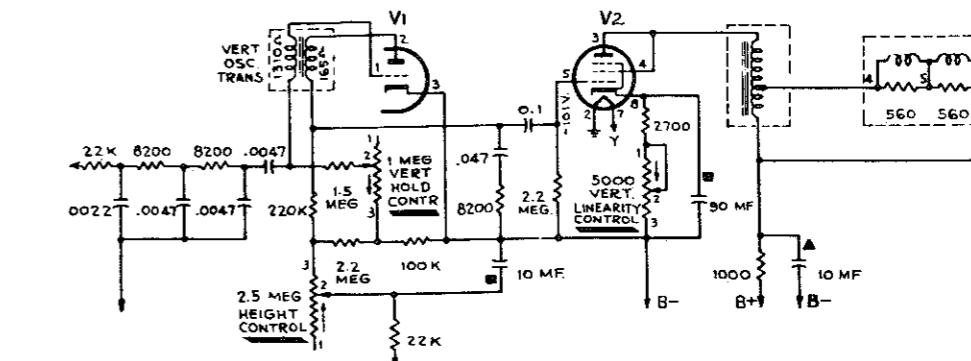

FIG. 40. A typical vertical sweep circuit.
**The Vertical Sweep Circuits.** Fig. 40 shows a typical vertical sweep circuit. Any defect in the circuit can be quickly located with the Model 250 Oscilloscope regardless of whether the defect is "no sweep," "distortion in the sweep," or "incorrect sweep frequency."